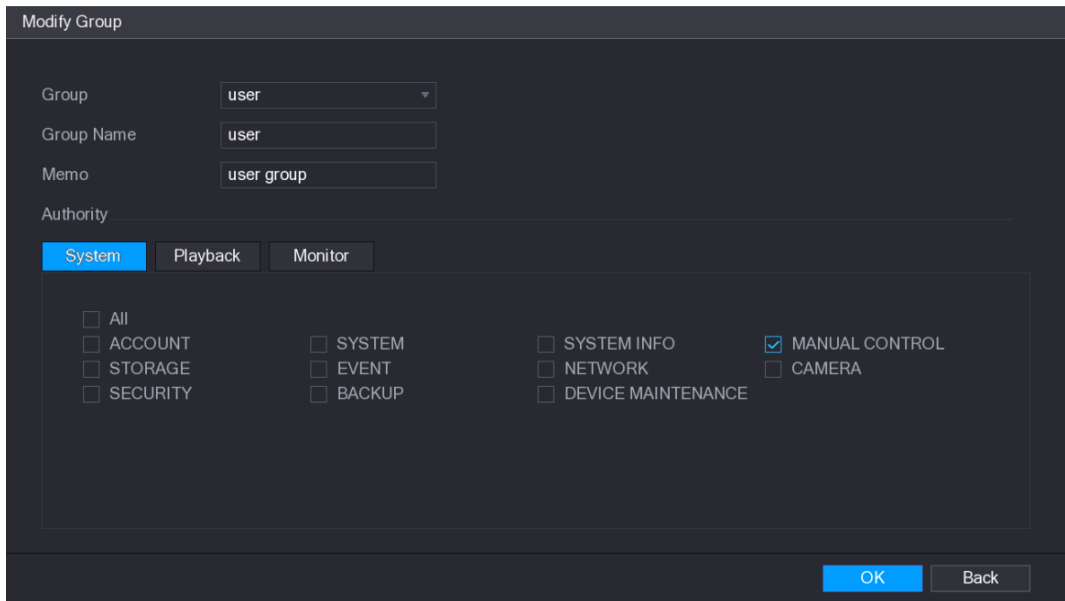

Figure 5-243
Step 3 The **Modify Group** interface is displayed. See Figure 5-243.